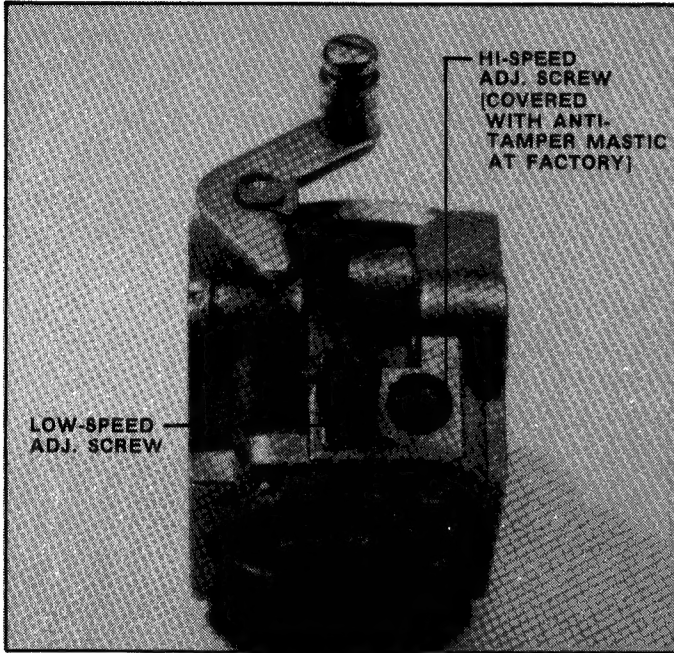

**FIGURE 2.5**
D. Note for re-assembly of the needle valve and lever group, the lever end should be adjusted to 1/16" below the level of the outside surface of the carburetor body. See Figure 2.5.